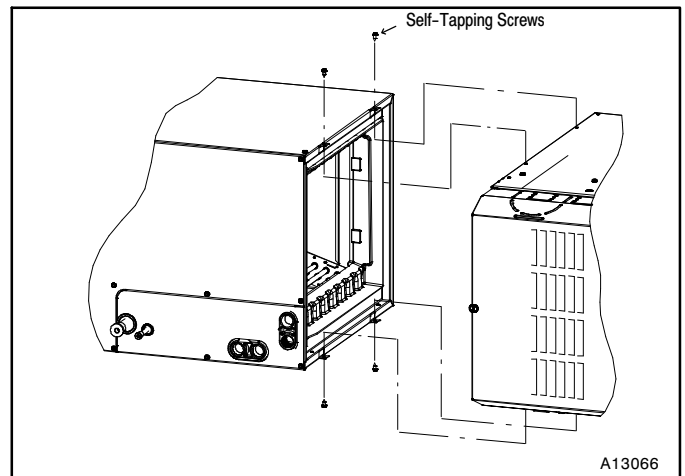

Figure 9 – Horizontal Left Installation
3. Use self-tapping screws to attach furnace. (See **Figure 9**)